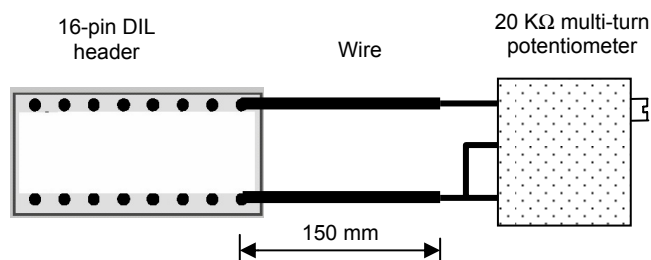

Figure 10 – 20 K Ω potentiometer on 150 mm wire
4. Solder either of the wires, with the potentiometer fitted to the other end, to pin 1 on the DIL header, refer to figure 10 below.
5. Solder the other wire, with the potentiometer fitted to the other end, to pin 16 on the DIL header, refer to figure 10 below.